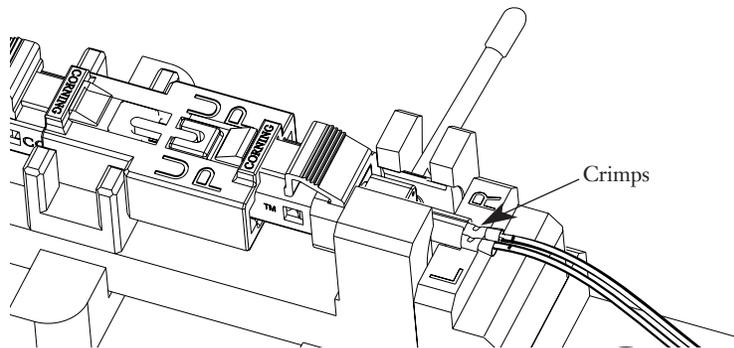

Figure 3-27
**3.7-7** Flip the crimp handle back. You should see a flat impression in the crimp tubes, indicating a proper crimp (Figure 3-27).